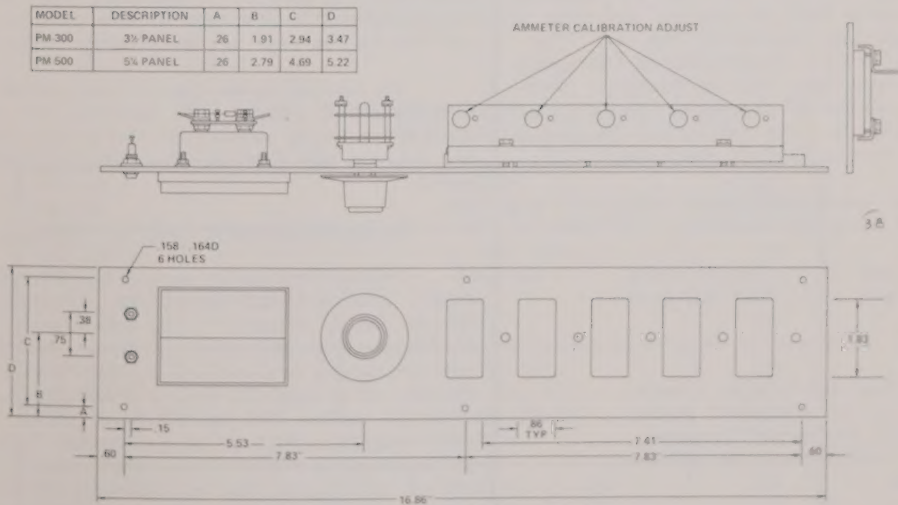

Figure 3
The second metering system consists of full-rack metering panels (Figure 3) for all products in Sorensen's modular line. The panels are available with a single, selectable-scale voltmeter and up to five current-monitoring meters. These panels are factory-calibrated and are not designed for field installation.
Any of the Sorensen meter panels; PM1/PM2 (Figure 2) or PM300/PM500 (Figure 3), may be used with the "short" racks.
Sorensen meter panels PM300/500 (Figure 3) are designed for specific rack assemblies:
4. PM300/PM500 Meter Panels (Figure 3)